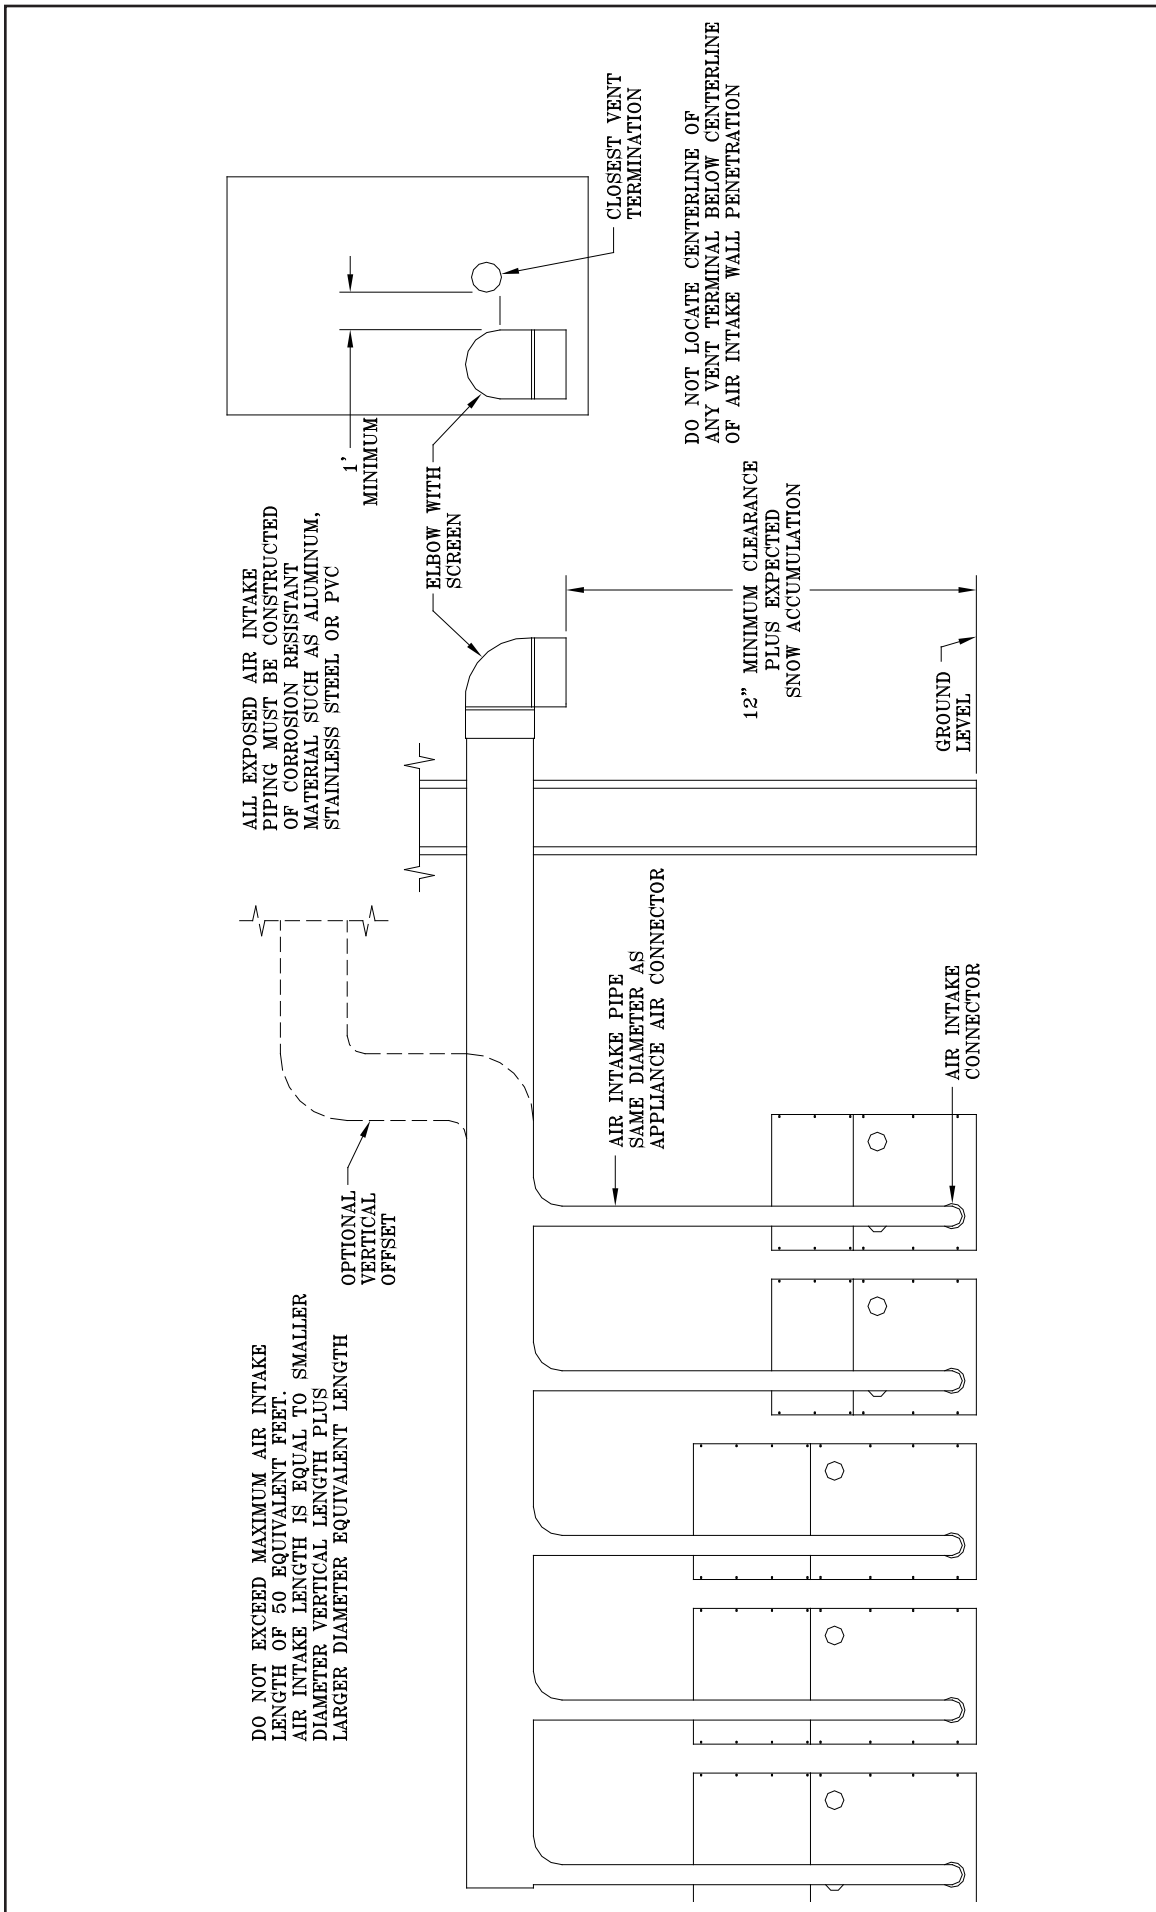

Figure 11: Modular System Horizontal Air Intake Piping
- b. Refer to Figures 11 and 12 for common air intake guidelines for modular boilers.
- f. Vertical air intake pipe must terminate at least two (2) feet above the closest portion of the roof.